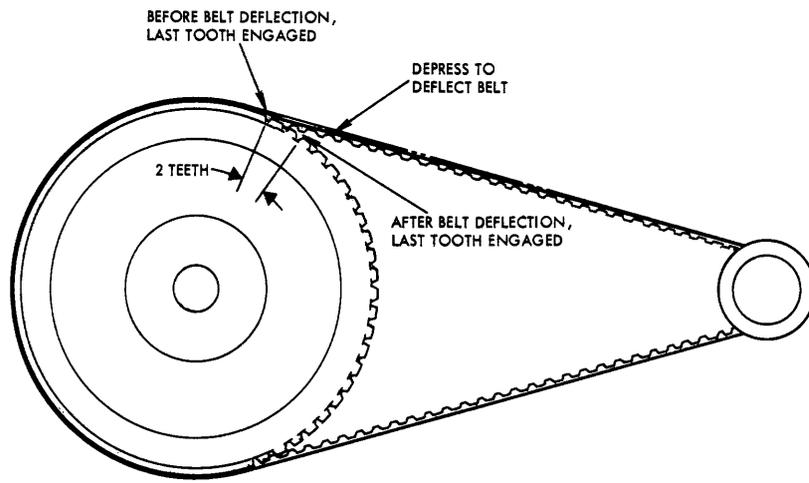

Figure 6-5. Reel Servo Belt Tension Adjustment
- (2) Adjust the pulley so that the timing belt is snug. Note the last belt tooth that is completely seated in a slot on the large pulley. Refer to Figure 6-5.
- (3) Count two to three teeth from the last engaged tooth. Hold the large pulley to ensure that it does not turn. Depress the toothed belt at the point between the second and third teeth with sufficient force to deflect the belt flush against the gear.
- (4) Adjust the drive motor assembly so that the second tooth is firmly engaged in a slot on the large pulley but the third belt tooth is not engaged.
- (5) Tighten the three screws on the motor mounting plate and recheck for the condition in Step (2).